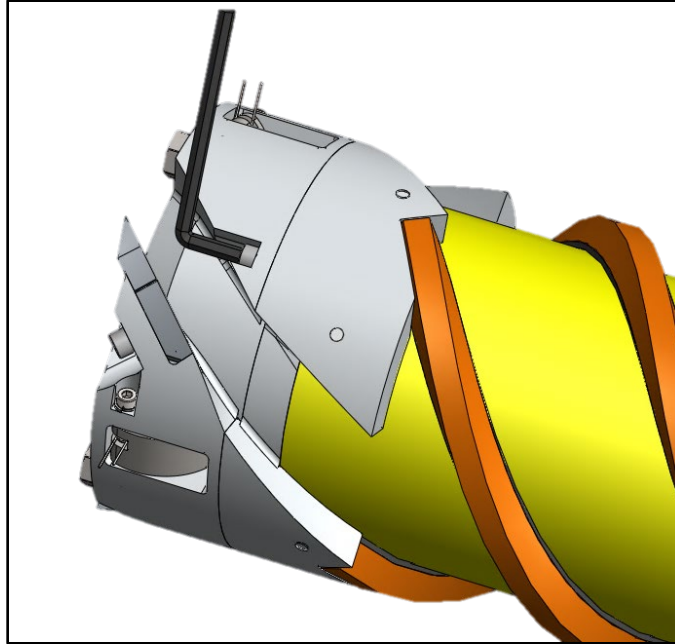

Figure 3: Removing the Cutter Head
1. Using the 9/64" Allen wrench, remove the three socket head cap screws that attach the cutter head to the barrel adapter (Figure 3).